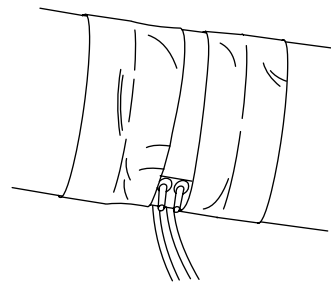

Fig. 21 — Secure Airflow Station
1. Cut the duct and insert the flow measuring station. Make sure that the flow measuring station air direction arrow points in the direction of the airflow. Secure the flow measuring station with duct tape. See Fig. 21.